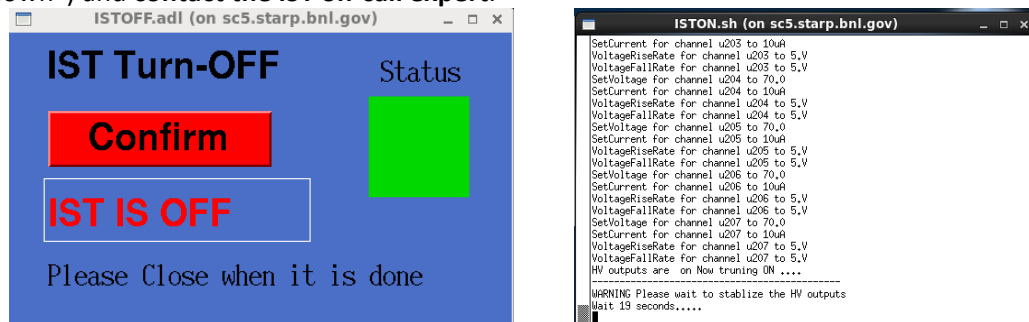
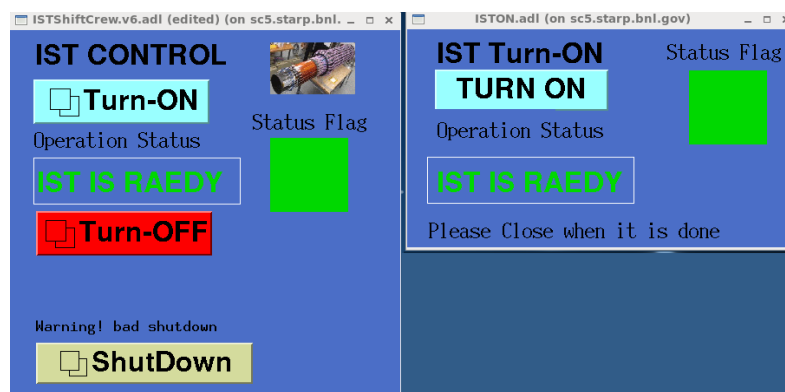

Figure 2 Left: IST Turn-On Confirmation Window; Right: Pop-up terminal during turn-on.
Figure 3 IST Main GUI (Left) and Turn-on Confirmation Window (Right) after the IST has been successfully turned on.
- 1- Click on “Turn-ON” button in the IST main GUI. A second window (Figure 2 left) will show up to ask you for confirmation to turn on the IST.
- 2- Click on “Confirm” button to start turning on IST. A terminal (Figure 2 right) will show up, automatically executing the commands to turn on the IST. After about 90 seconds, the terminal (Figure 2 right) will disappear. The IST status bar will become Green indicating that turning on IST is successful and “IST IS READY” text will appear in main GUI and confirmation windows (Figure 3).
- 3- Close the confirmation window (Figure 2 left) and inform the shifter leader that the IST is turned on.
**Note:** After the terminal (Figure 2 right) disappears, the status bar on the main GUI should be green with the message “IST IS READY”. In case the turn-on process is not successful, a failure flag will show up in the main GUI (see section “Failure Codes and Actions To be Taken”) in this case: